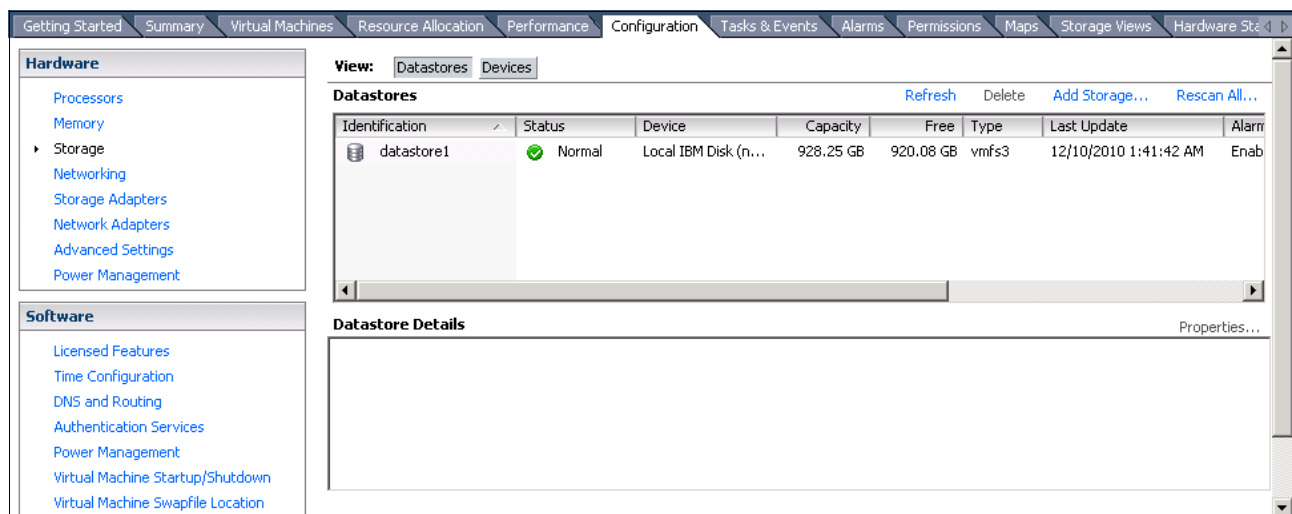

Figure 12-51 Add Storage menu
6. Go to the storage view shown in Figure 12-51 and click **Add Storage**.